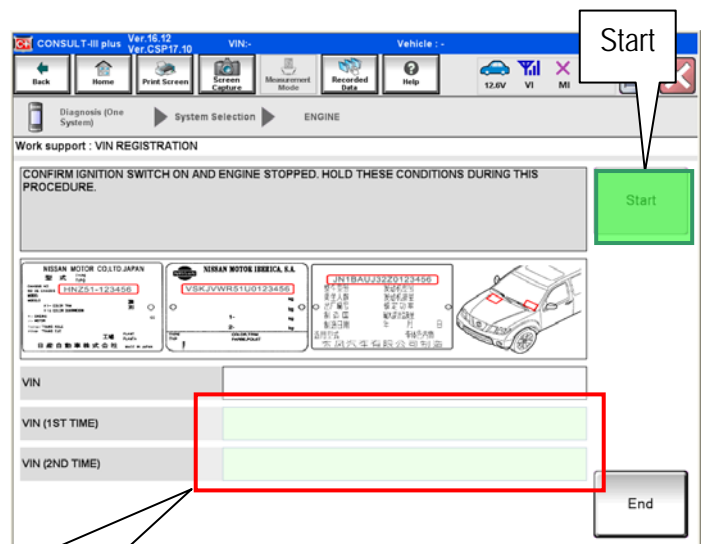

Figure 7
- b. Enter the vehicle VIN in both the VIN (1ST TIME) and VIN (2ND TIME) boxes, then select Start. See Figure 7.